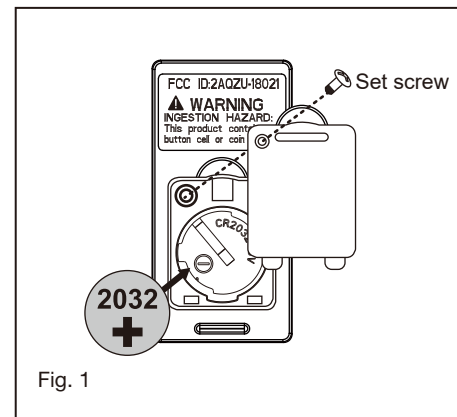

Fig. 1
1. Insert the receiver into the ceiling mounting bracket with the flat side of the receiver facing the ceiling. (Fig. 1) For best performance, make sure the Black Antenna and WIFI Antenna, on the end of the receiver, remains extended and not tangled with any of the electrical wires.
- 1 Select a desired location. Use the wall plate to mark the location of the mounting holes. Plastic wall anchors or mounting screws are needed for this application. (Fig. 1)
Remove the panel from the transmitter and then install one 2032 battery (included). You need to use a screwdriver to open or close the battery cover. To prevent damage to transmitter, remove the battery if not use for long periods of time (Fig. 1)